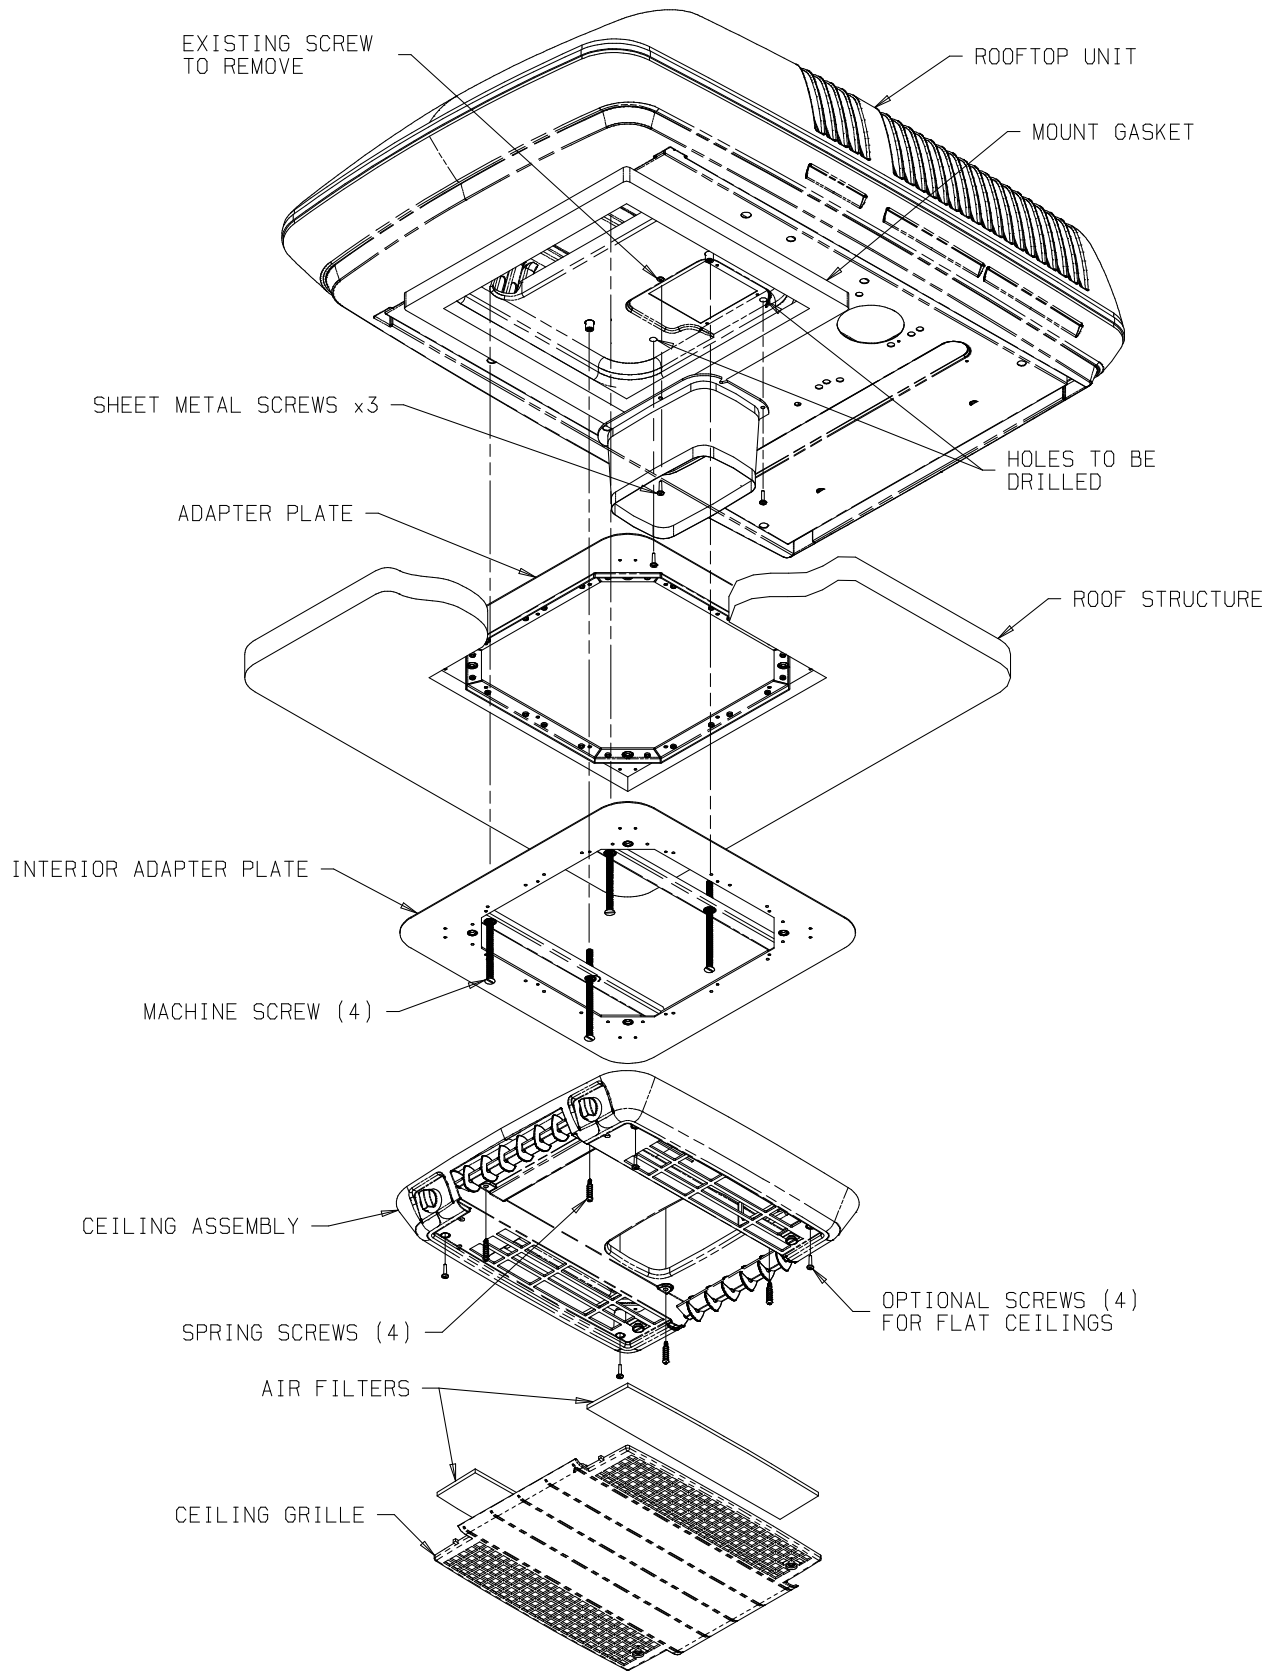

FIGURE 1
Referencing Figure 1, continue installation procedure as follows:
1. Before the ceiling assembly can be mounted to the roof top unit, the duct flange assembly must be assembled to the basepan. Remove screw from basepan as indicated in Figure 1 and discard. Position the duct flange assembly such that the chute opening on the duct flange assembly corresponds with the opening in the basepan. Line up the centered clearance hole on the duct flange assembly with the pilot hole on the basepan. Assemble the duct flange assembly to the basepan using one of the sheet metal screws provided. Using the other two clearance holes on the duct flange as a guide, drill the two additional pilot holes (3mm diameter) in the basepan for the sheet metal screws. Install the two sheet metal screws to finish securing the duct flange assembly to the basepan.
7. Raise the ceiling assembly and secure to the mounting frame with 4 provided shoulder screw/spring assemblies. The front two screws should pass through the clearance holes in the metal control box shield (See Figure 1).